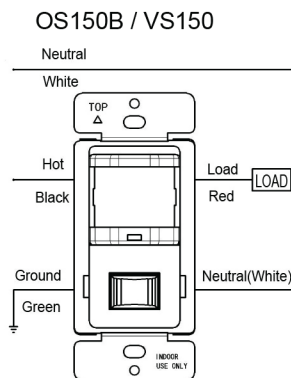

Figure 2
1. Connect lead wires as WIRING DIAGRAM (see Figure 2): Black lead to Line(Hot), Red lead to Load wire, White lead to Neutral wire, Green lead to Ground.